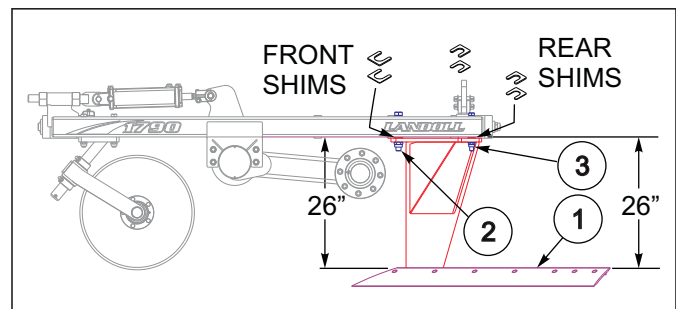

Figure 4-11: Blade & Standard Adjustment
2. The distance from bottom of frame to top of blade standard should be 26" at all three bolts **See Figure 4-11.**
3. If the blade and standard assemblies (1) need adjusted, loosen the 1" locking nut on the front, of the 1"-8x7" hex bolt (2) and the two, 3/4" lock nuts (3) on the rear of the 3/4"-10x4" hex bolts. There are 1"x1/16" or 1"x1/8" shims for the front and 3/4"x1/16" or 3/4"x1/8" shims for the rear. Add or take out shims, between the bottom of frame and top of standard to get the blade and standard assemblies level.